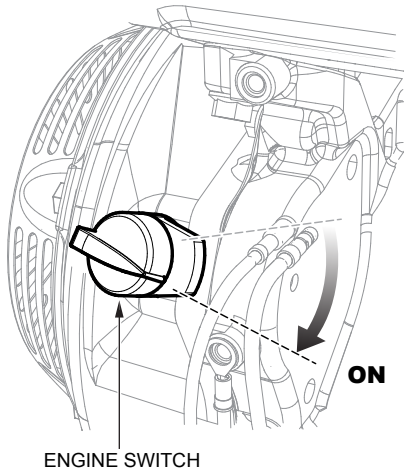

Figure 12. Engine ON/OFF Switch (ON Position)
6. Place the engine **ON/OFF** switch (Figure 12) in the **ON** position.